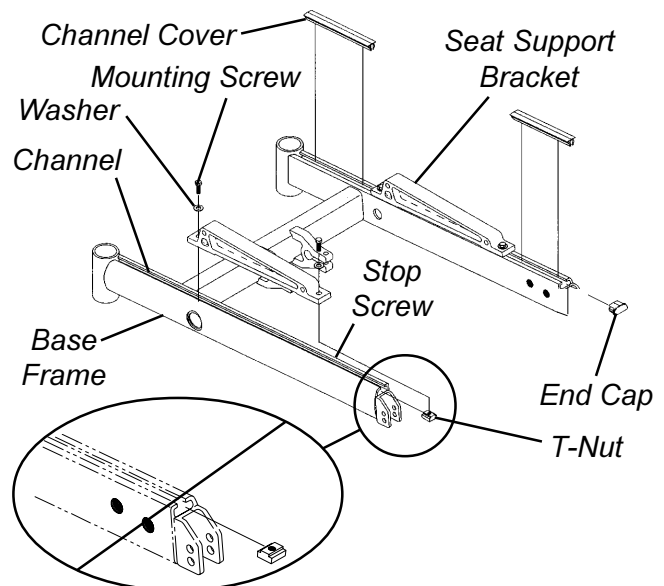

FIGURE 3 - REPLACING SEAT SUPPORT BRACKET T-NUTS
**REPLACING SEAT SUPPORT BRACKET T-NUTS (FIGURE 3)**
- Perform one (1) of the following: